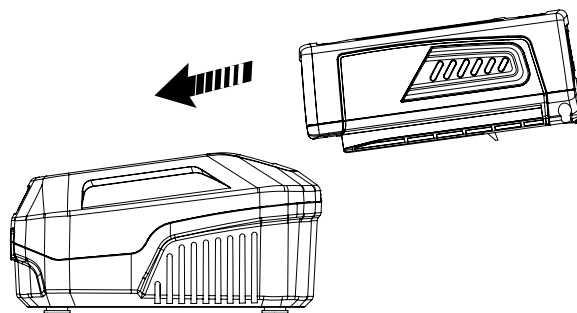

Fig.11
2) Plug in the battery charger first, the indicator light on the charger should be red. Next slide the battery pack into the charger, until it clicks into place and the indicator light on the charger changes from red to green, and the indicator light of the battery pack flashes, indicating charging. (See Fig.11)